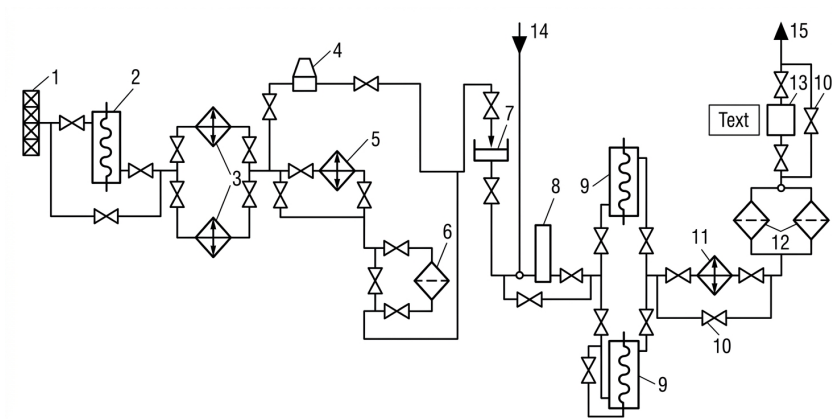

Fig. 2. Fuel preparation and delivery system to the main engine
Fig. 2 shows a structural diagram of the fuel supply system to the main engine from the valve boxes 1 of the bunker tanks to the pipeline 15 to the high-pressure fuel pumps. The main engine fuel supply section includes: fuel transfer pump 2; heaters 3, 5; separator 4; supply tank 7; mixing column 8; coarse 6 and fine 12 filters; relief valves 10; fuel feed pumps 9. Fuel heating before delivery to the high-pressure fuel pump ensures the specified fuel viscosity using a device called a viscometer 13, which measures and regulates viscosity by changing the amount of steam supplied to the heater 11. When switching the main
6. Looking at Fig. 2, describe how the fuel preparation and delivery system to the main engine works.
b) Look at the diagram of the fuel preparation and delivery system to the main engine (Fig. 2) and try to describe this process.